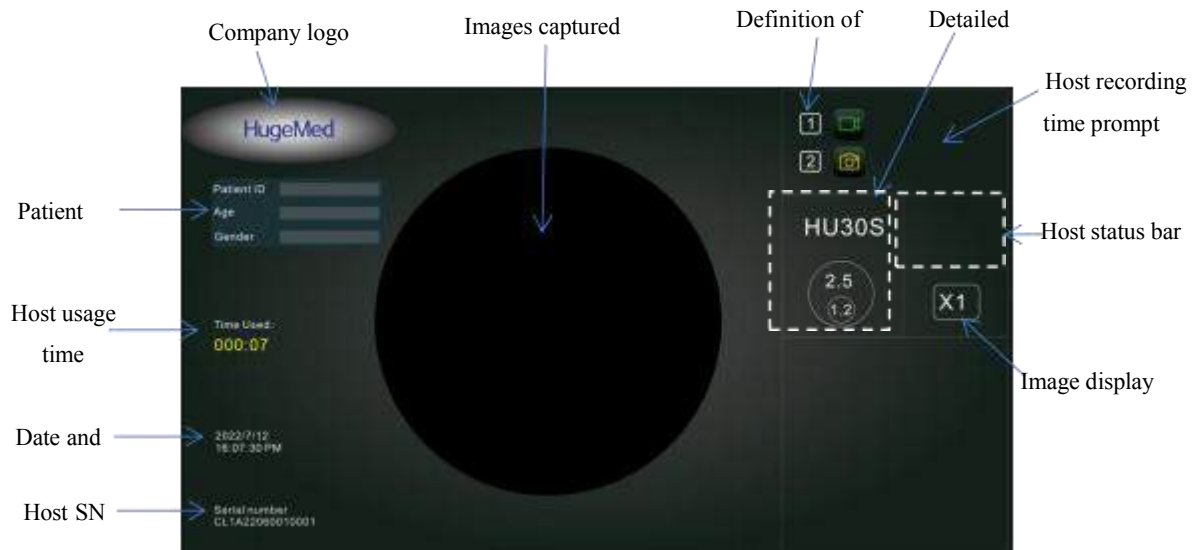

Figure 4-4 Main Screen Interface
- (1) After completing the patient information entry, enter the main screen interface, as shown in Figure 4-4.